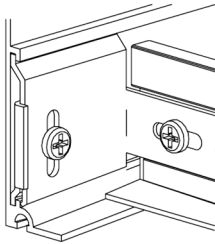

Figure 37 - Engaged Connector Clip in Boss
5. Slide the lower leg of the clips into the bottom portion of the boss. See Figure 37.